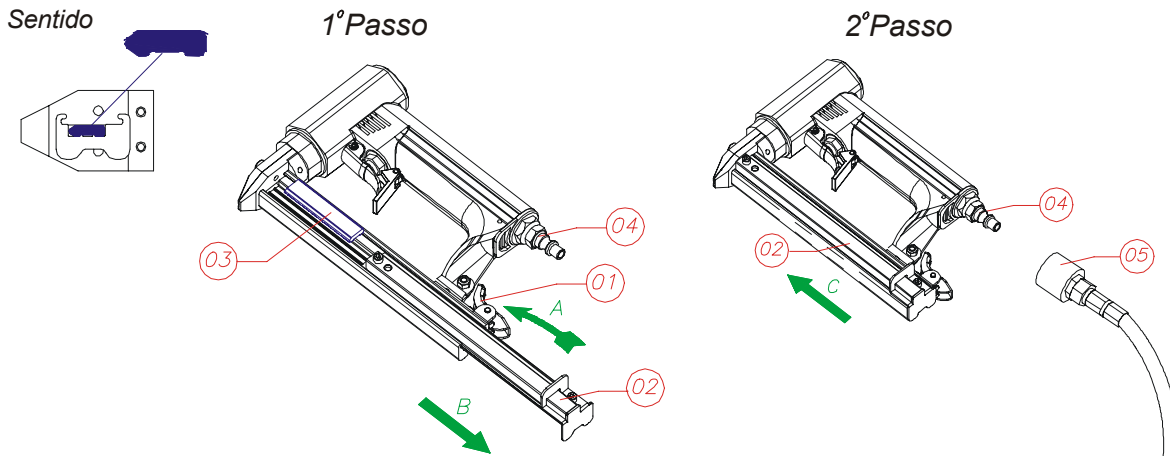
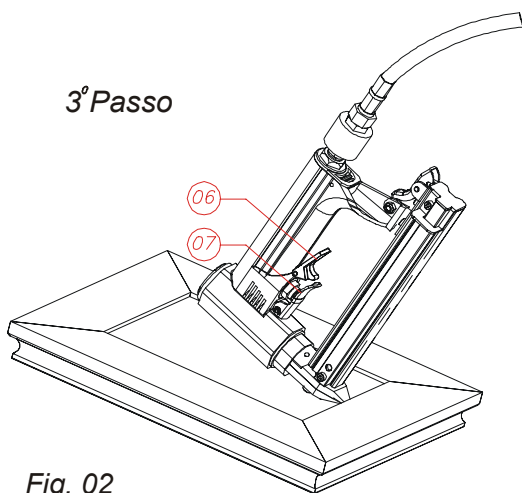

Fig. 01
Fig. 02
Para a operação da sua **PISTOLA INMES FI-140 P**, observar os passos na fig. 01 e fig.02 .
Observadas as recomendações acima, sua pistola já esta pronta para trabalhar, observe o 3º passo fig. 02 e veja como é fácil aplicar **flexipontas® "SS" INMES** em seu quadro ou porta retrato:
1. First of all load the Air Gun, by releasing the magazine latch and slide its cover all the way open fig. 01 (02) proceeding the following way: press the latch of the magazine fig. 01 (01) in the way of the narrow "A" and pull the cover of the magazine fig.01 (02) in the way of narrow "B" so right after that load the magazine with one or two strips of flex points SS Inmes fig. 01 (03) and push on the end cap to close and latch the cover.
2. Place the Flex with the glue side down and the sharp end of the points faced to the nose of the gun as figure 01;
4. Right after loading the magazine connect the Air Gun to the air supply fig. 01 (05) hose with the regulator set between 06 bar;
As soon as you accomplish all these procedures mentioned above, you're ready to work, observe the third step Fig. 02 and look how easy is to insert the Flex Point SS INMES into the frame or photo frame.